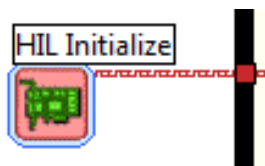

Figure 4.3: HIL Initialize Express VI
3. **Configure DAQ:** Ensure the HIL Initialize block is configured for the DAQ device that is installed in your system. To do this, go to the block diagram (CTRL-E) and double click on the **HIL Initialize** Express VI shown in Figure 4.3.